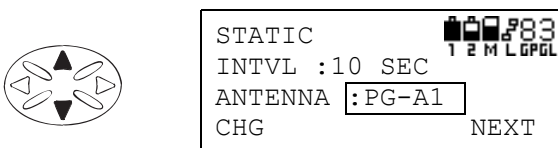

Figure 3-19. Change Other Parameters As Needed
- Use the cursor key to navigate to the next parameter. In this example, the antenna parameter (Figure 3-19). Change the selected parameter as described in above steps.